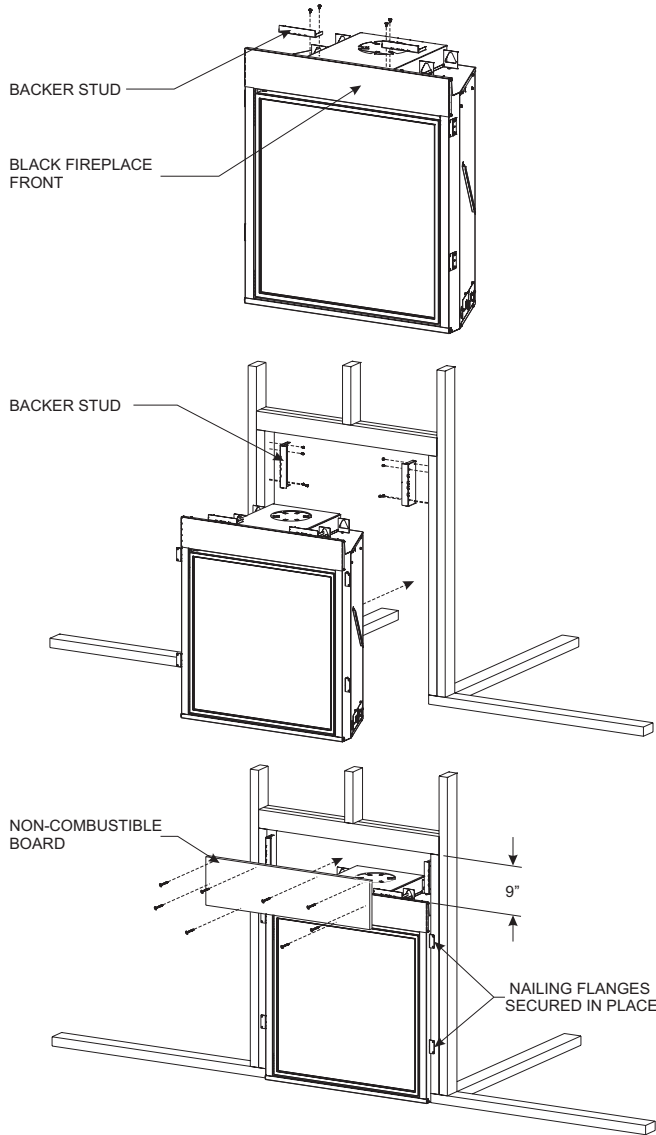

**Figure 34**
7. Bend the nailing flanges 90 degrees as shown in **Figure 34**.